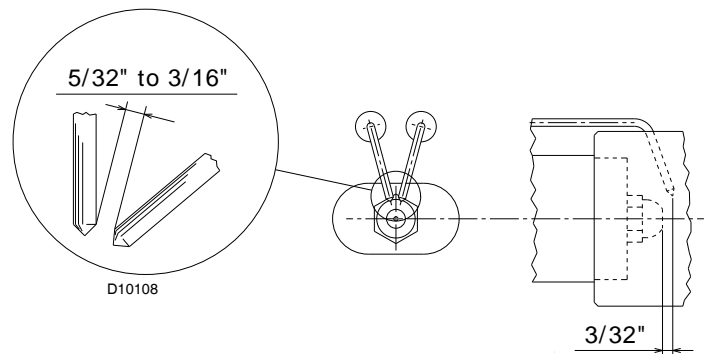

Fig. 19
- Make sure that the electrodes are positioned as shown in Fig. 19.
Make sure that the electrodes are positioned as shown in Fig. 19.